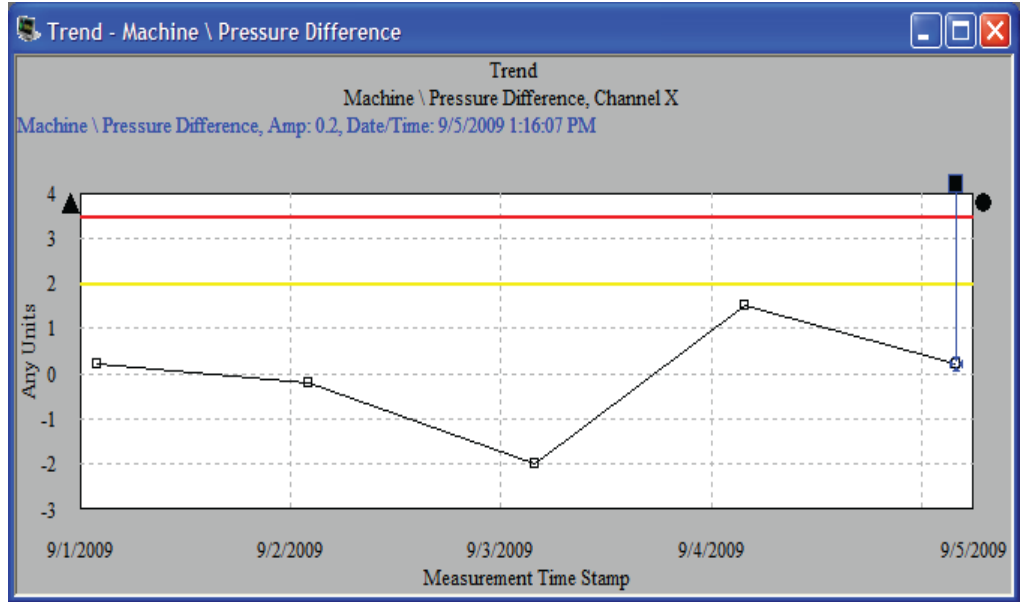

Figure 5. Pressure difference trend.
- 8 Locate the new derived POINT in the hierarchy, highlight it and select Edit/ Calculate Derived POINTs. This calculates values from all stored data (data stored for the assigned “variable” POINTs) for the new derived POINT. If you created the Pressure A and Pressure B POINTs with the values shown in **Table 1**, your trend will look like the one in **Figure 5**.